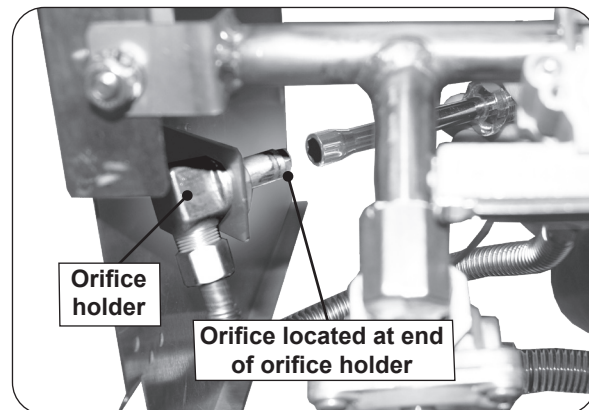
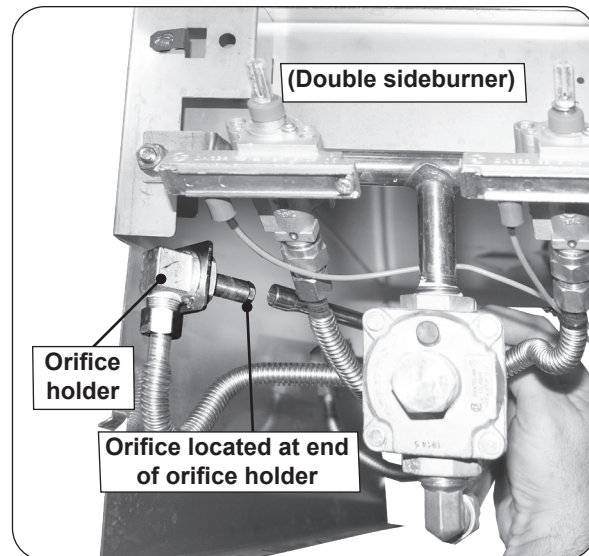

Fig. 36-1 Single side burner orifice locations
Fig. 36-2 Double sideburner orifice locations
4. Using a $\frac{3}{8}$ " socket nut driver, remove the orifice from the orifice holder (see Fig. 36-1 and Fig. 36-2) and check the number stamped on the orifice face.